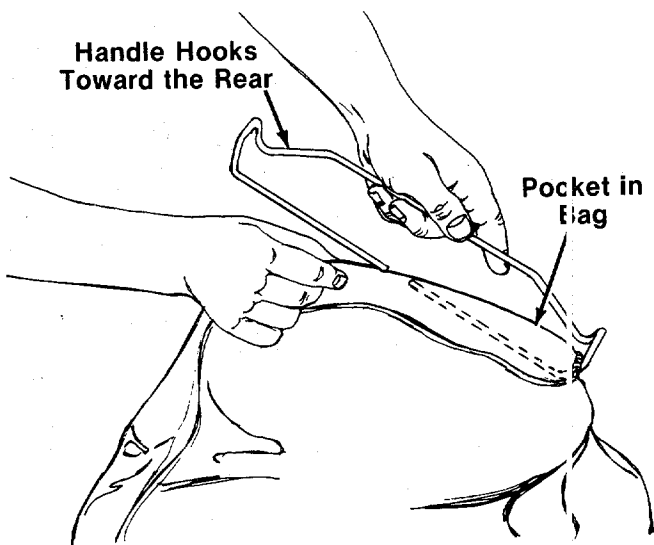

FIGURE 15.
- Attach the rear handle to bag by inserting one side of handle into pocket on the rear of the bag. The handle should hook toward the rear of the bag as shown in figure 15. Thread all the material onto one side, then slide it over onto the other side. See figure 15.